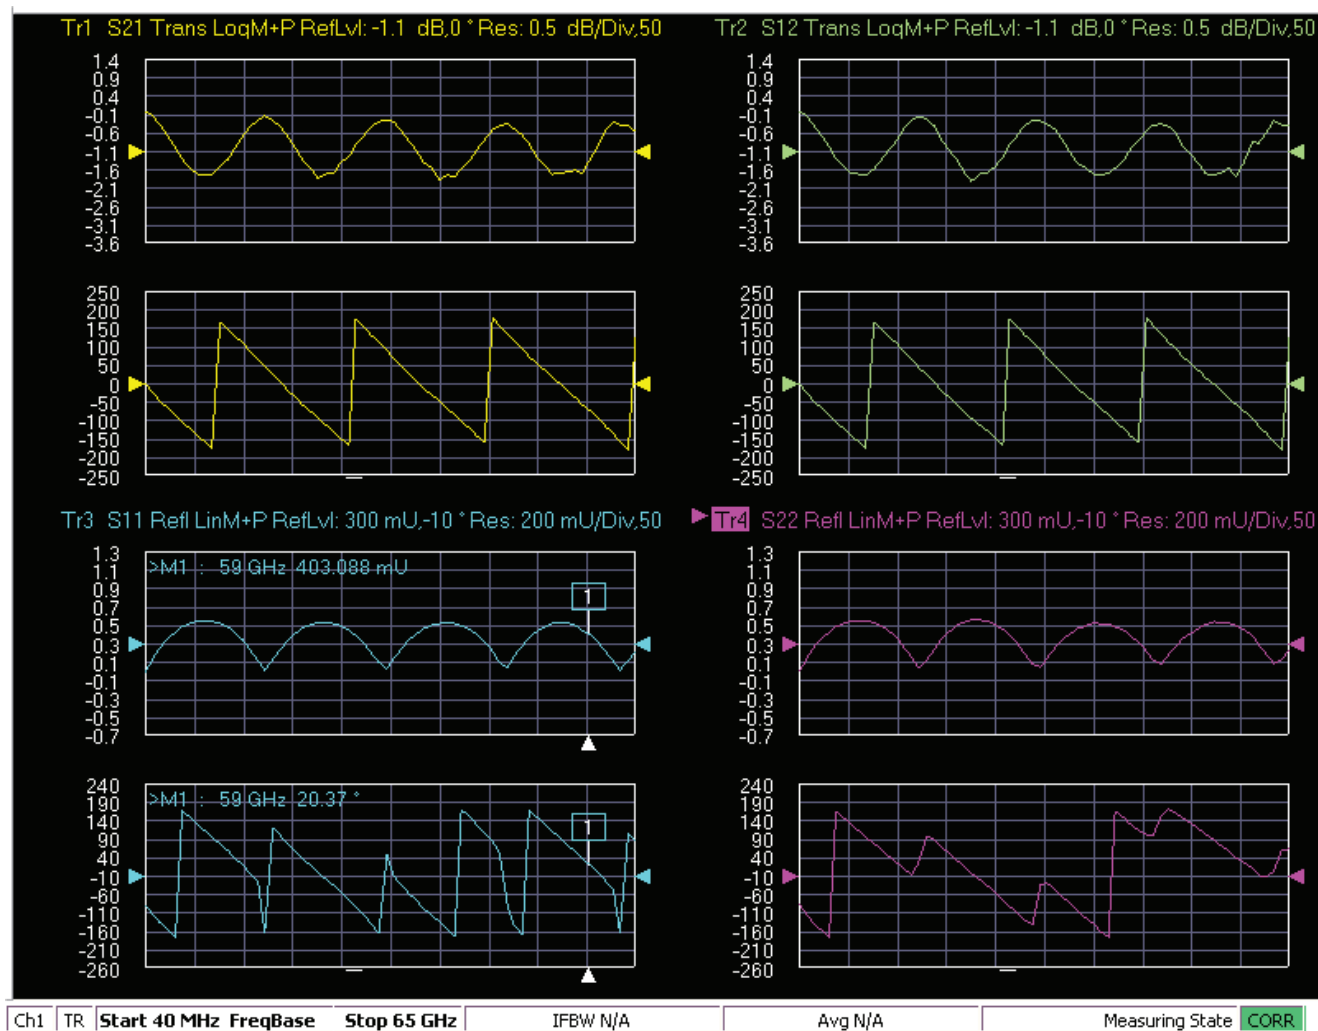

Figure 3-51. MS4640A/B Series VNA, Typical Mismatched Thru Data in Low Band
7. When the test completes, the program returns to the main menu described Section 3-9 “Application Interface – Main Menu Tab” on page 3-26, and the display should look similar to Figure 3-51. This is a typical display immediately after measuring the Mismatched Thru in the Low Band. Please note this is for reference only and that the actual data on the VNA display may not be identical.